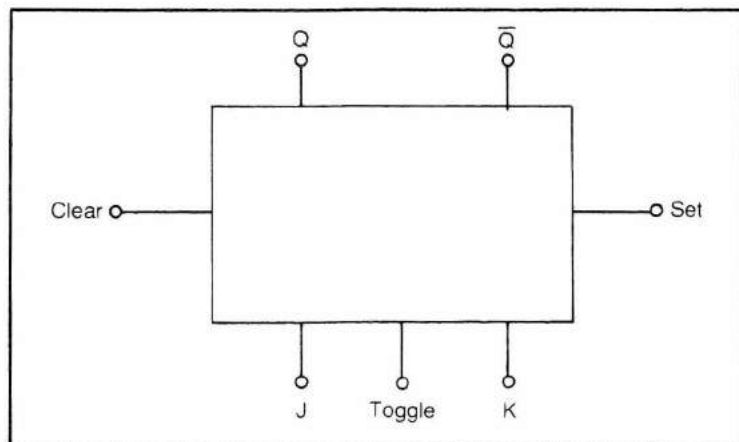

Fig. 16-3. Block diagram of J-K type flip-flop. Q - \overline{Q} states can be changed by a signal at the toggle input only if J and K are properly conditioned.
The J-K flip-flop is shown in Fig. 16-3. If the clear is brought to 0
The J-K flip-flop in Fig. 16-3 has a set and a clear. If a clock pulse is applied to the toggle input (T), the output's Q and \overline{Q} will change, depending on the state of both J and K. If $J = 0$ and $K = 0$, the flip-flop will do nothing. This is an easy way to disable the unit. If $J = 1$ and $K = 0$, a clock pulse will cause $Q = 1$ and $\overline{Q} = 0$. If both J and K are 1, the output will flip-flop on every other pulse. This is a divide-by-two function. If $J = 0$ and $K = 1$, a clock pulse will cause $Q = 0$ and $\overline{Q} = 1$.